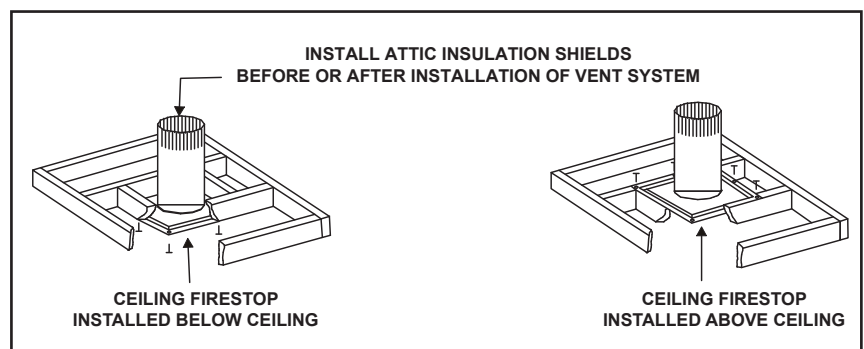

Figure 6.4 Installing the Attic Shield
- The ceiling firestop may be installed above or below the ceiling joists when installed with an attic insulation shield. It must be under joists between floors that are not insulated. Refer to Figure 6.4.